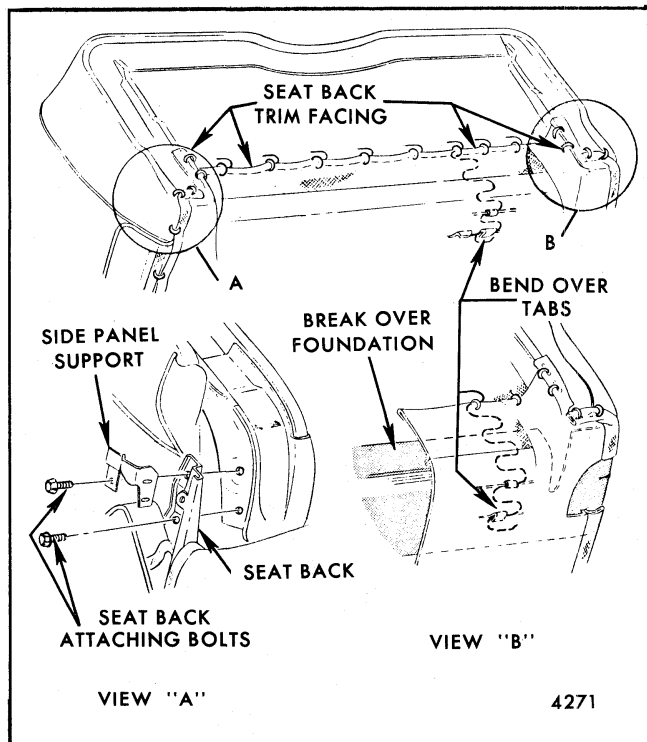

Fig. 9-32-Front Seat Back Attachment - Typical Four Door Attachment - Styles with Full Width Conventional Seat
2. Remove hog rings securing lower edge of seat back trim facing to seat cushion springs (see Fig. 9-32).
3. Raise lower edge of seat back trim, detach fiber-board breakover foundation and bend out tabs on seat back frame securing seat cushion springs. Disengage springs from tabs (Fig. 9-32).
frame. Raise or turn back seat back trim to expose bolts securing seat back frame to seat cushion frame (Fig. 9-32). Where seat back lighter or courtesy light is present, disconnect wire from seat cushion frame.